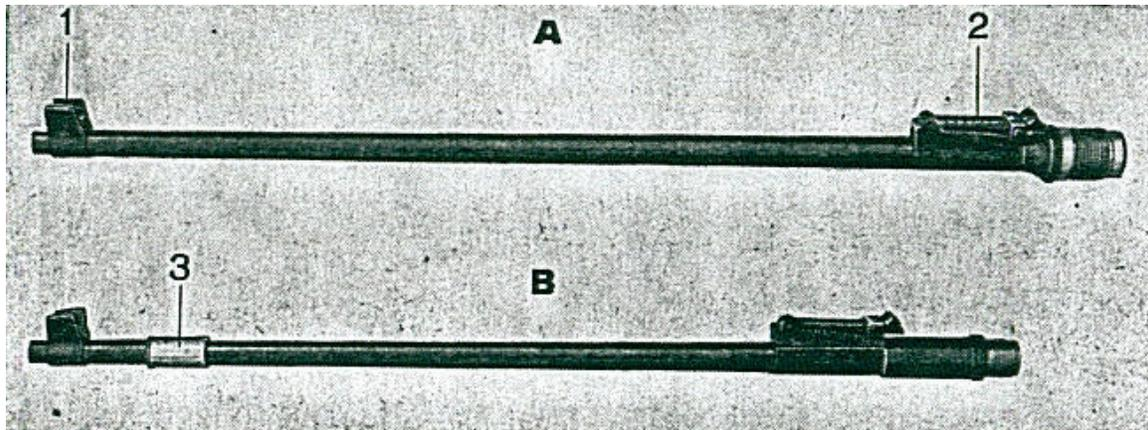
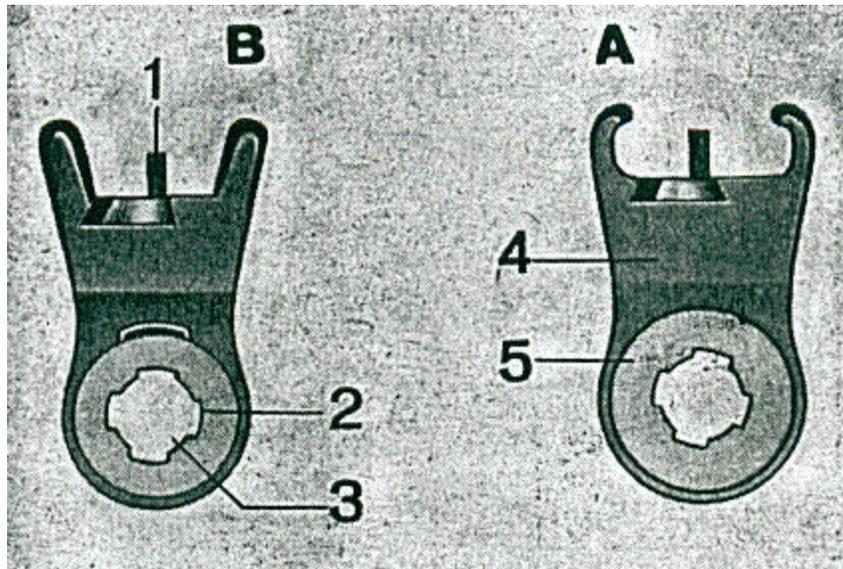

Figure 2
Figure 3
- The barrel, caliber 7.5 (fig. 2) with the sight mechanism. ( figs. 3 to 5)